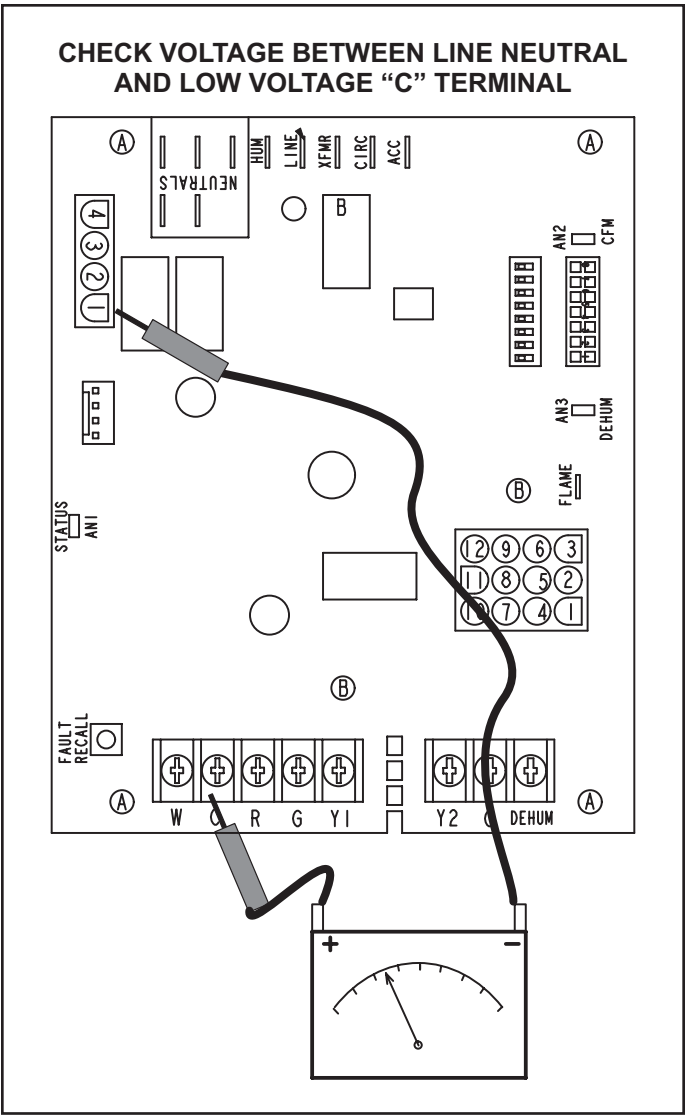

Figure 21.
- 1. Measure the AC voltage between Line Neutral (spade terminals) and “C” terminal (low voltage terminal block) on the integrated control. See Figure 21. A wide variation in the voltage between Line Neutral and “C” as a function of load indicates a poor or partial ground. Compare the readings to Table 11. If the readings exceed the maximum shown in Table 11, make repairs before operating the furnace.